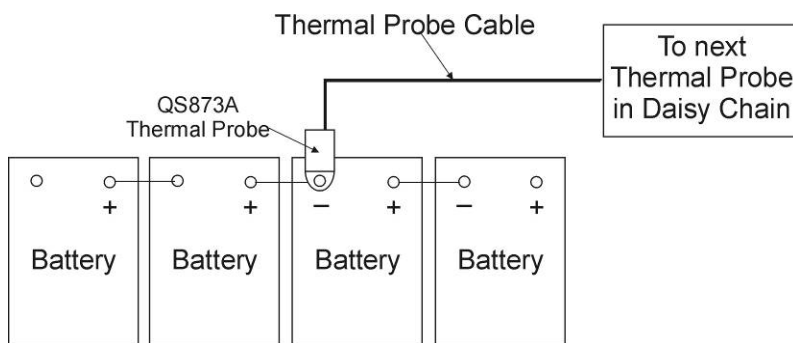

FIGURE 4: Location of Thermal Probe on Battery String
- For the Thermal Probe Expansion Kit, select the battery on which the probe is to be mounted. It is recommended that thermal probe be mounted as close to the physical middle of the string as possible (example, Cell #3 of 4). See Figure 4.